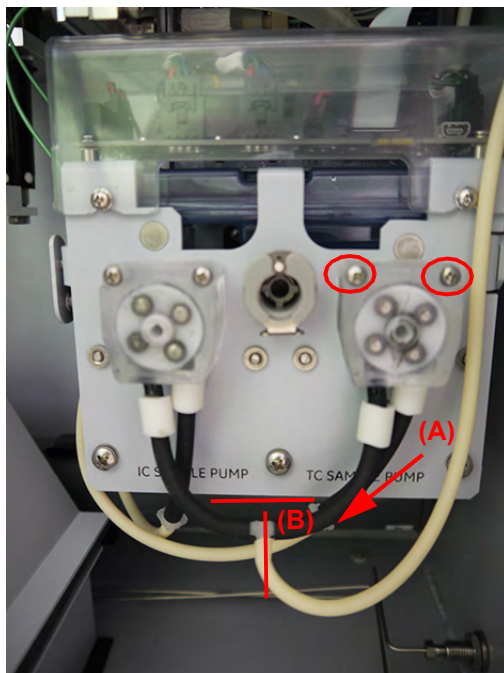

Figure 54: Sample Pump Heads and Tubing — TC Side
2. Open the Analyzer and locate the two sample pump heads Figure 54. Refer to “Interior Views of the Analyzer” on page 176 if needed.
3. To remove the TC pump head, disconnect the right *inlet* tubing coming out of the pump head from the fitting at the end of the TC waste tubing **(A)**, Figure 54.
4. Disconnect the left *outlet* tubing coming out of the sample pump head from the T-connector **(B)**, Figure 54.
10. Connect the left tubing end to the T-fitting **(B)**, Figure 54.
11. Connect the right tubing end to the TC waste tubing **(A)**, Figure 54.